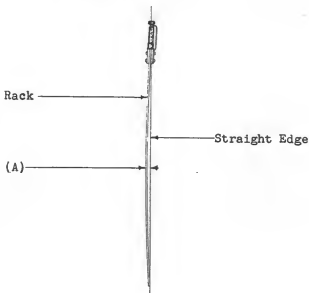

Fig. 4 - Bow of Rack
2.01 Bow of Rack - Fig. 4 (A): With the rack held vertically, any bow in the entire length of the rack shall not exceed